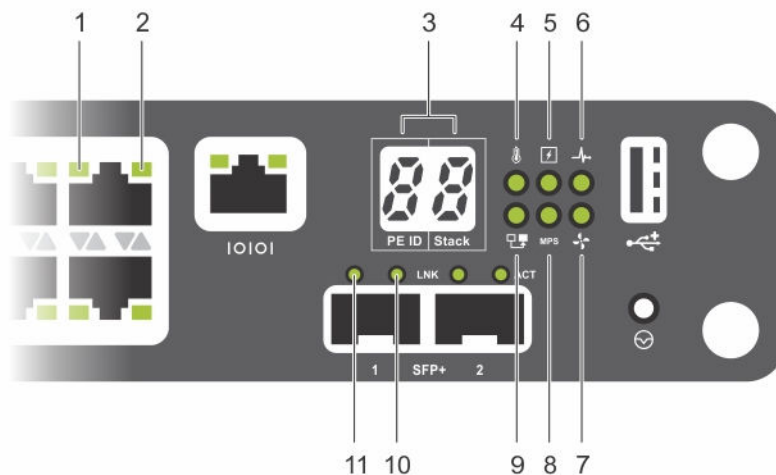

Figure 2. C1048P Front Panel: LEDs
The following table describes 10/100/1000BASE-T port LEDs (items 1 and 2 in Figure 2).
The following table describes the system LEDs on the C1048P front panel (items 3 to 11 in Figure 2).